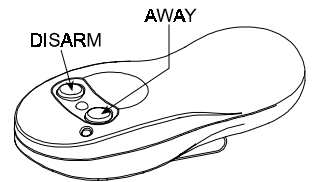

Figure 22. MCT-132 / 102
**D. MCT-132 / MCT-102** (see Fig. 22): 2-button units. MCT-132 (CodeSecure) Can perform functions as shown. MCT-102 (PowerCode) can perform emergency and non-alarm functions. Both units look alike.